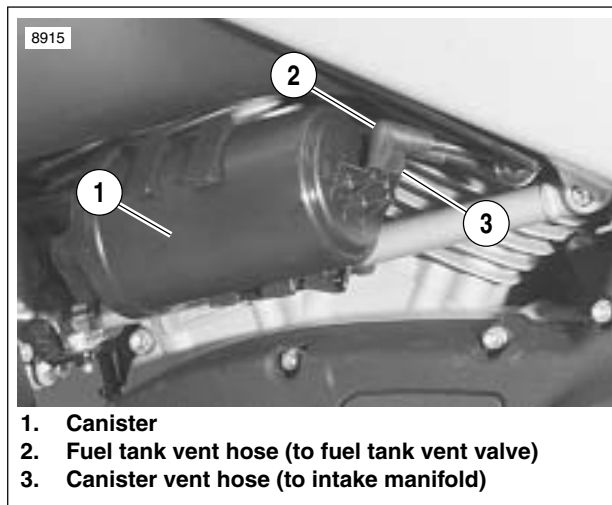

Figure 4-121. Carbon Canister Installation.
1. See Figure 4-121. Label and disconnect the fuel tank vent hose (2) and canister vent hose (3) from the canister.
2. See Figure 4-121. Attach fuel tank vent hose (2) to canister if disconnected.
2. See Figure 4-121. Connect two hoses to the canister. Make sure to push hoses all the way on to carbon canister fittings.